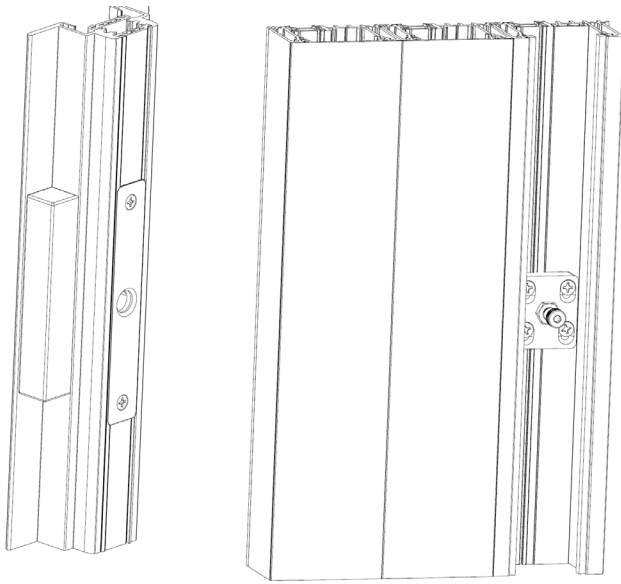

Figure 19
22. Drill four (4) $\frac{3}{16}$ " clearance holes at the marked locations of the strike plate. Anchor the lock strike to the jamb with #10 x 2-1/2" PH Flat Head screws. Shim as needed to avoid bowing the frame. (See Figure 19.)